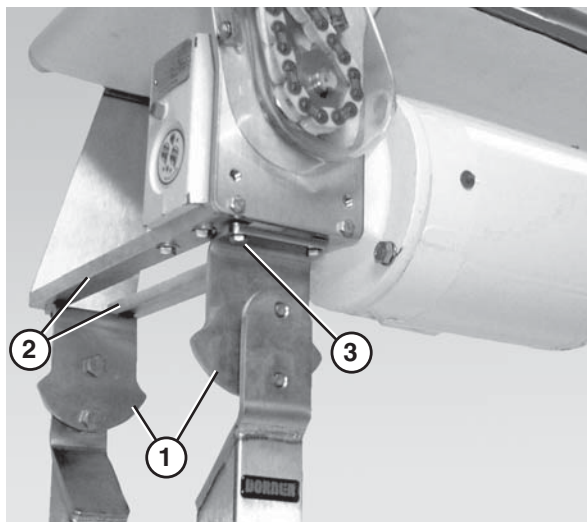

Figure 9
- Attach both brackets (**Figure 9, item 1**) to the heavy mount gearhead support bars (**Figure 9, item 2**) using four M6 - 1.0 x 20 mm hex head cap screws (**Figure 9, item 3**).
- Tighten the heavy mount gearhead support bar screws (**Figure 9, item 3**) to 80 in•lb (9 N•m).
- Tighten both bracket (**Figure 9, item 1**) screws to 50 ft•lb (72 N•m).